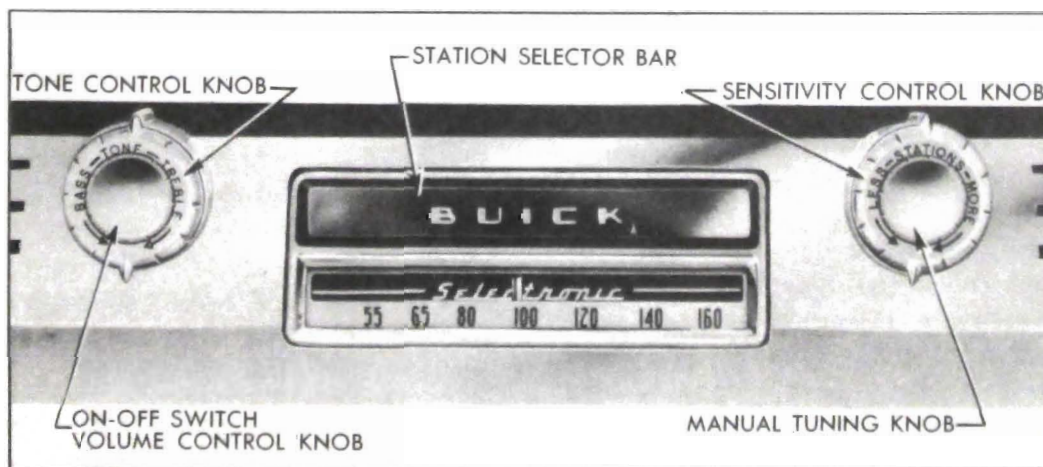

Figure 11-9—Receiver Controls—Selectronic Radio
The switch and volume control knob is to the left of the dial. See figure 11-9. The first portion of rotation clockwise turns on the radio; further rotation clockwise increases the volume.
The tone control knob is located behind the volume control knob. See figure 11-9. Rotation of tone control knob to extreme "treble" position gives brilliant reproduction of the full tone range. This position will reproduce speech very clearly and distinctly. Rotation counterclockwise toward "bass" diminishes brilliance and accentuates low notes.
With the radio turned on, selective tuning of available stations is accomplished by depressing either the selector bar above the dial (fig. 11-9),
The number of stations on which the tuner will stop in selective tuning can be regulated by manual setting of the sensitivity control knob, which is located behind the manual tuning knob to right of the dial. See figure 11-9. This is a step control having six positions. This control is in the circuit only while the tuner is seeking and does not affect the "on station" sensitivity of the receiver.
7. Install tone control knob, felt washer, and volume control knob on shaft to *left* of the dial. Install dummy knob (Sonomatic) or sensitivity control knob (Selectronic), felt washer, and tuning control knob on shaft to *right* of the dial. See figure 11-9.